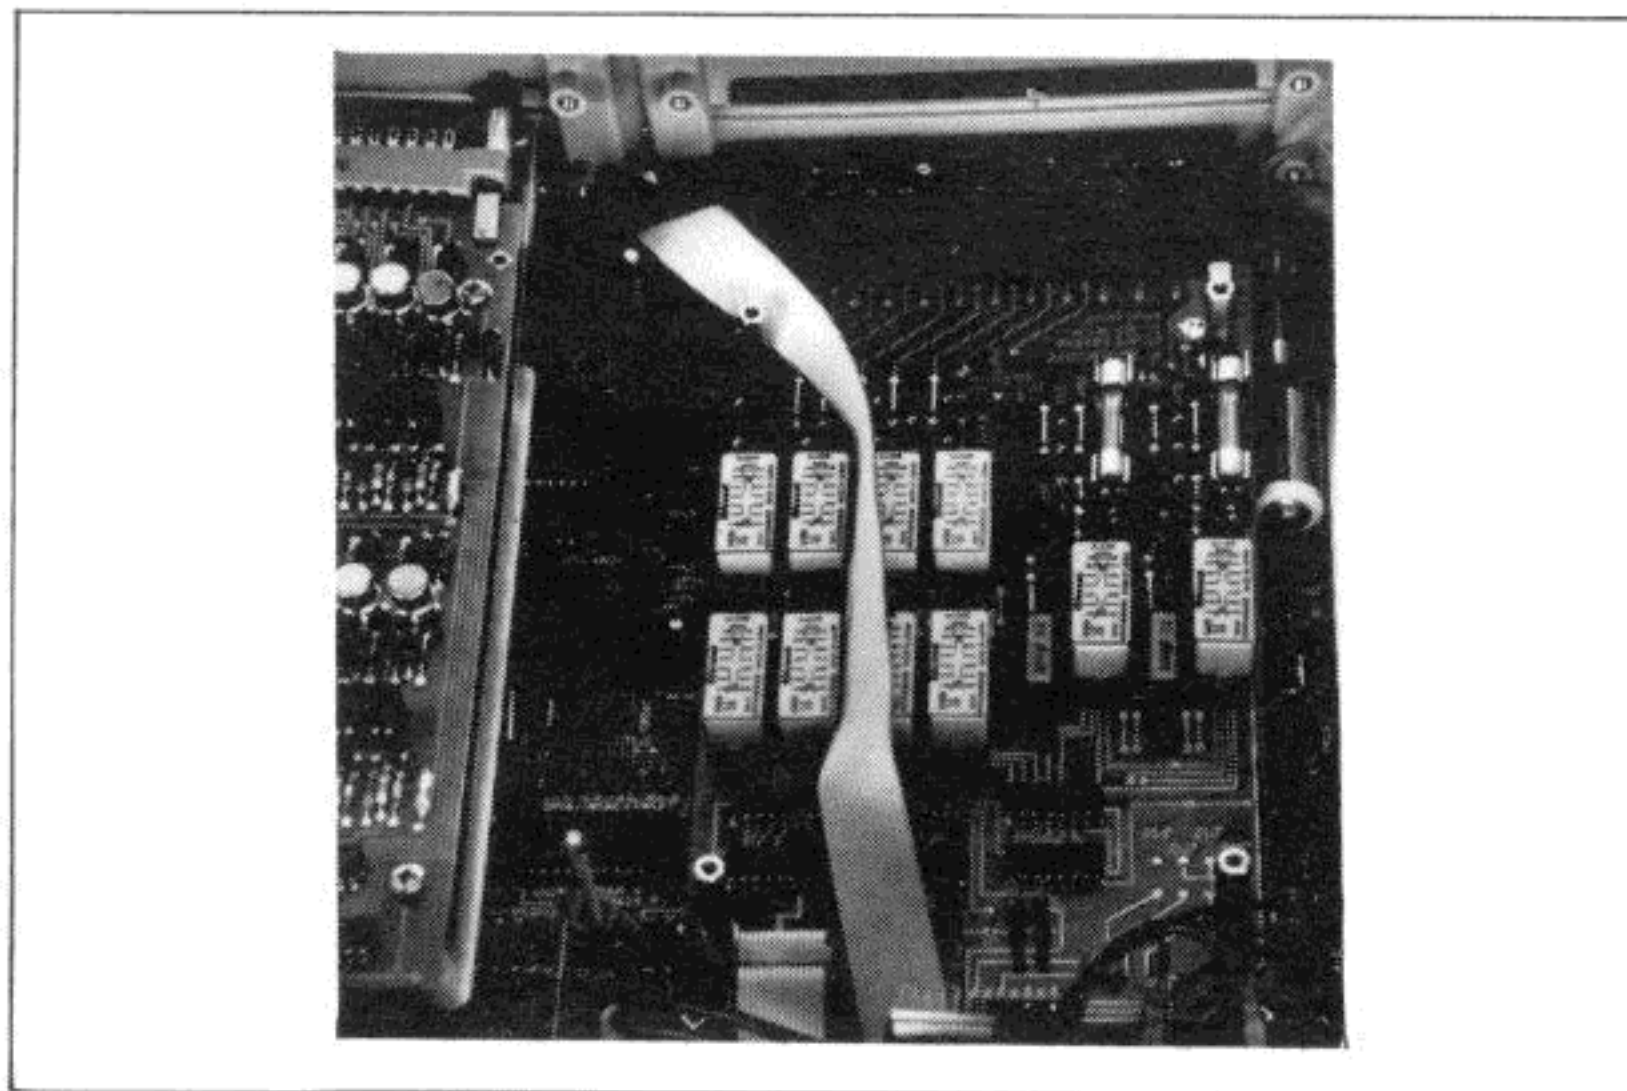

Figure 2-2-8. Slot 1 Option Cable Routing
a. Route the ribbon cable from J501 on the motherboard across the slot 0 option as shown in Figure 2-2-8. Make sure the red stripe is oriented to the right (pin 7 of the motherboard connector).